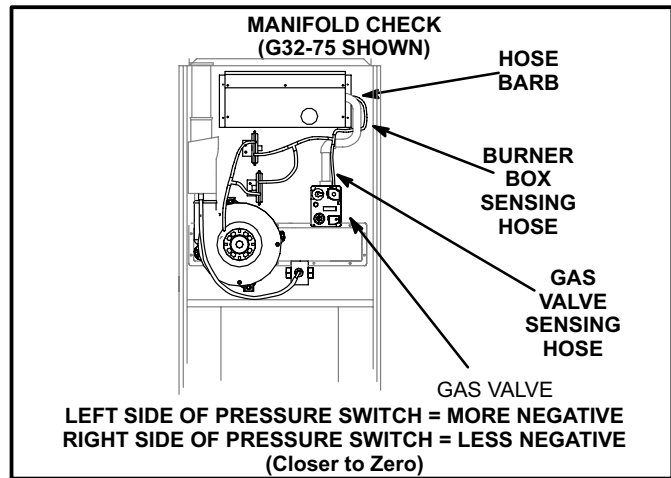

FIGURE 39
- 2 - Disconnect pressure sensing hose from gas valve and plug hose. Leave hose barb on valve open to atmosphere. See figure 39.